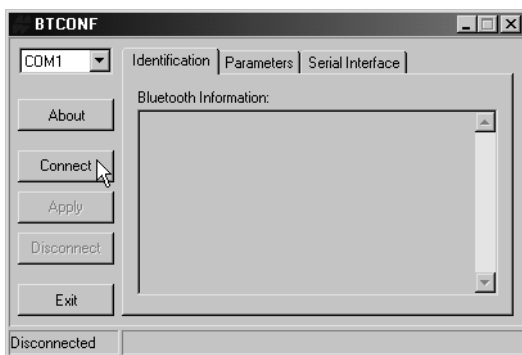

**Figure 2-34. Bluetooth Module Configuration Main Screen**
3. Run the Bluetooth module configuration program (Btconf.exe) (Figure 2-34).